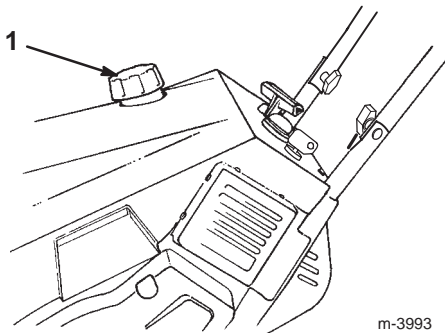

Figure 4
1. Clean around the fuel tank cap (Fig. 4); do not allow snow or water to enter the fuel tank.